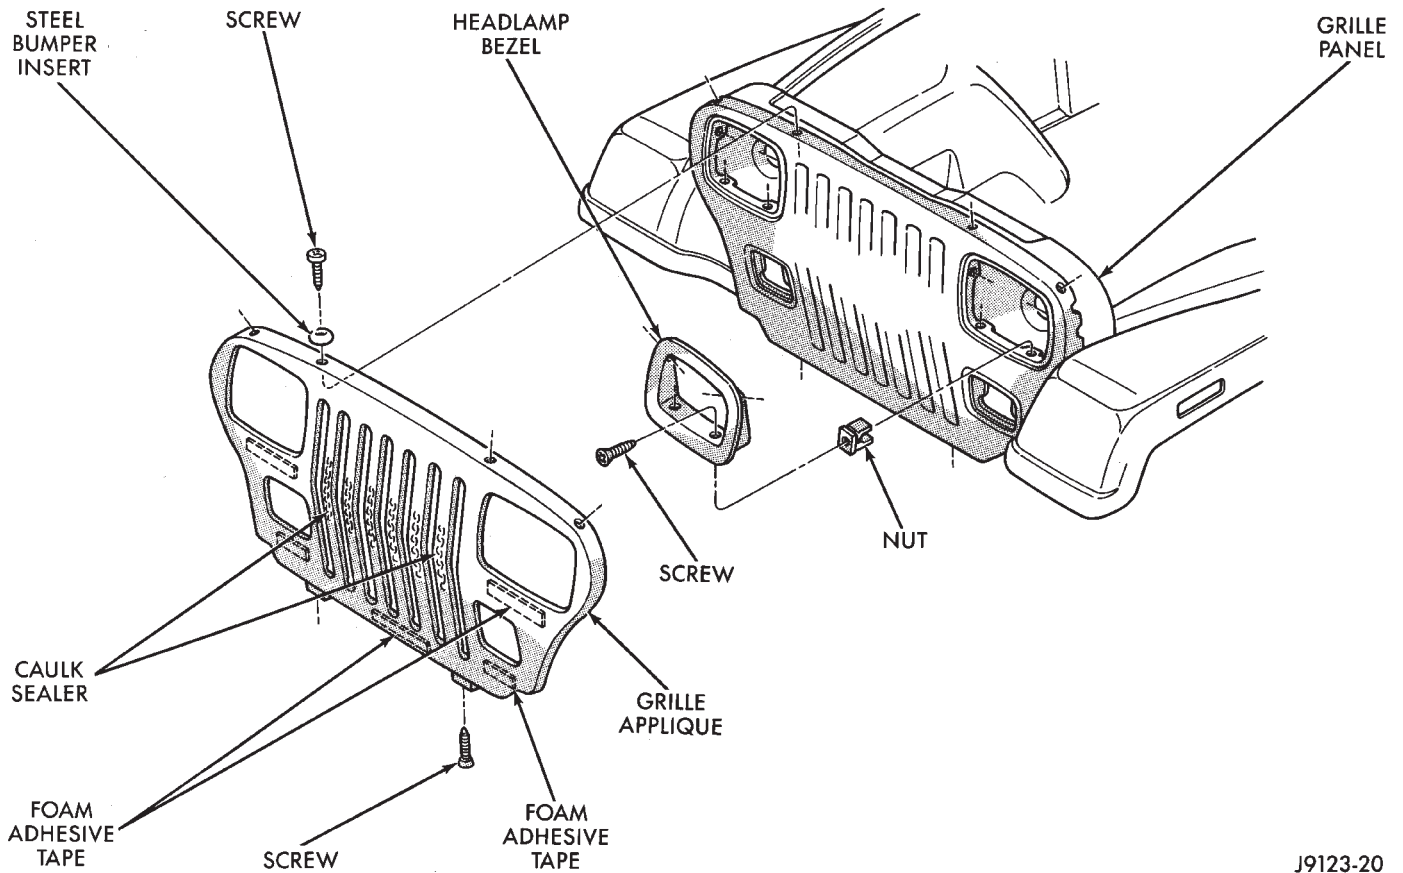

Fig. 1 Grille Applique, Headlamp Bezel and Grille Panel
- (7) Remove the front crossmember cover.
- (8) Remove the retaining screws and the bumper inserts at the top of the grille panel (Fig. 1).
- (9) Detach the grille applique from the grille panel (Fig. 1).
- (10) Remove the double faced foam adhesive tape at the bottom of the grille applique (Fig. 1).
- (1) Install double faced foam tape at the bottom, interior side of the grille applique (Fig. 1).
- (2) Position the grille applique over the grille panel and press inward along the bottom where the tape is located (Fig. 1).
- (3) Install the grille applique retaining screws and the bumper inserts (Fig. 1).
(5) Install the headlamp bulb retainer and the screws (Fig. 1). Tighten the screws to 2 N·m (18 in-lbs) torque.
(6) Install the headlamp bezels and the retaining screws (Fig. 1). Tighten the screws securely.